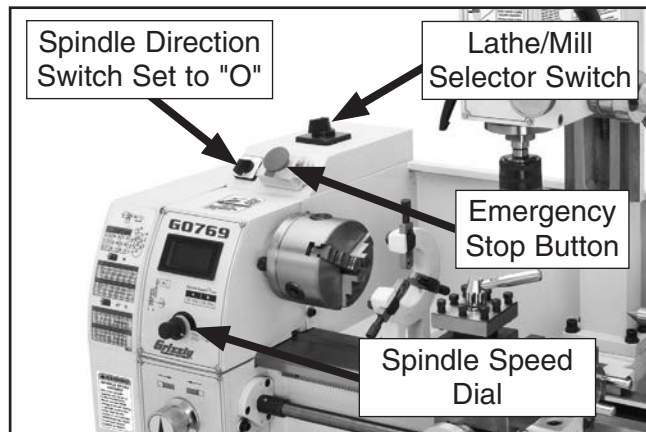

Figure 19. Headstock controls (G0769 shown).
2. Press Emergency Stop button cover (see **Figure 19**) to prevent unexpected start up.
G0769 Only: Set lathe/mill selector switch to "0" (see **Figure 19** on **Page** on this page).